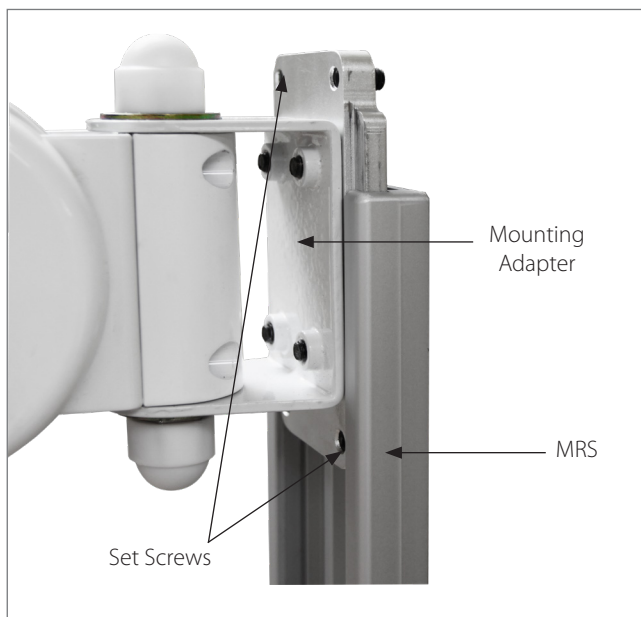

Figure 1
3. Lift up the Falcon Workstation and guide the Mounting Adapter into the top of the MRS Rail (**Figure 1**).